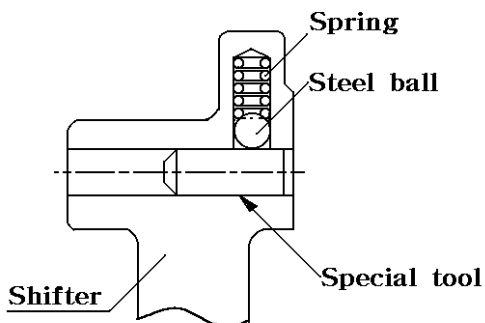

Fig.5-55
(3) Reassembly
c. When installing the shifter on the shifter stay, Use the special tool as shown in Fig.5-55